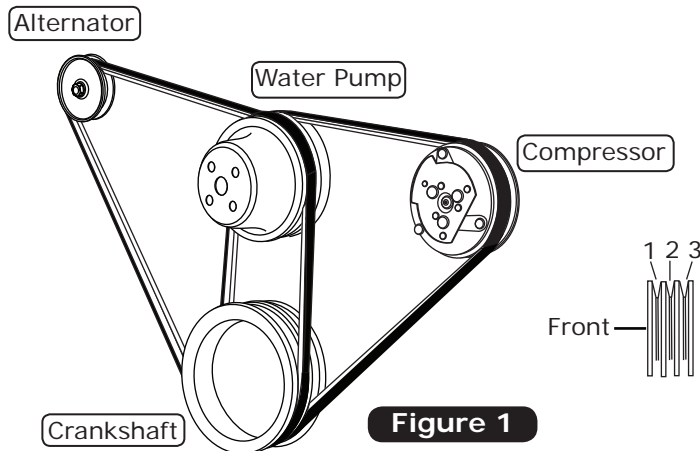

Figure 1
1. Route belts as shown in Figure 1, below. Vintage Air recommends using only Dayco, Gates or Goodyear brand reinforced V-belts with this compressor. Any use of lesser-quality belts may cause the compressor to perform improperly. A compressor belt length of 58" to 59" is recommended. **NOTE: This can vary with the diameter of the water pump and crankshaft pulleys.**